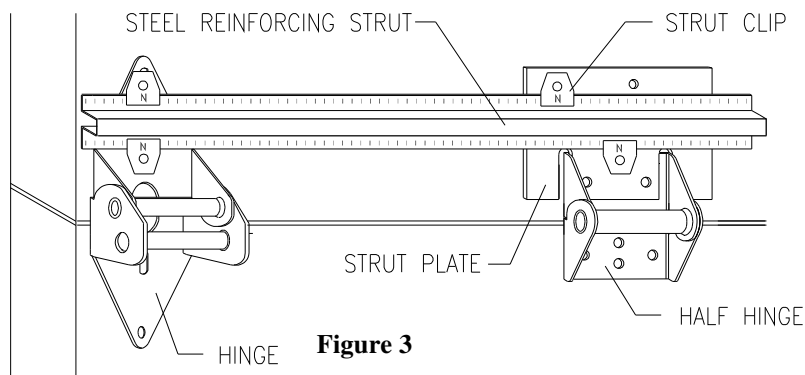

Figure 3
- Hold in place the steel struts with the strut clips and attach the clips to the strut plates (fig. 3) with 1/4" x 1" metal screws.